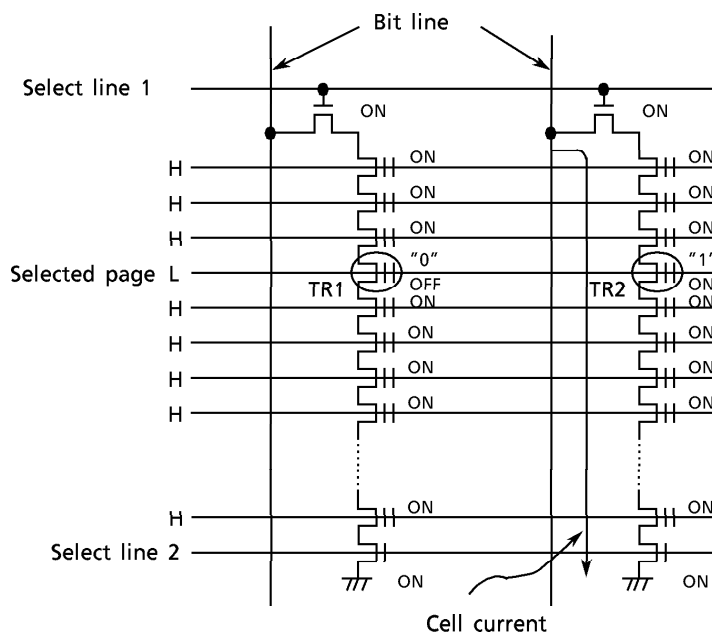

Figure 6. TC58A040 Read Device Physics
Figure 6 shows memory cell level details of the Read operation.
- (1) A high voltage is applied to Select lines 1 and 2 in the block which includes the selected page, so that the 16 NAND memory cells are connected to the Bit line and ground.
- (2) Zero volts is applied to the control gates of the selected page and a high level voltage is applied to the control gates of the unselected pages.
- (3) In Figure 6, transistor TR2 with data "1" turns on, transistor TR1 with data "0" turns off, and all other unselected transistors turn on.
- (4) The precharged bit line tied to TR2 is discharged through TR2 as cell current flows to ground, while the precharged bit line tied to TR1 remains high level because current does not flow. The sense amplifiers tied to the bit lines thus sense the voltage levels as "1" and "0" respectively.